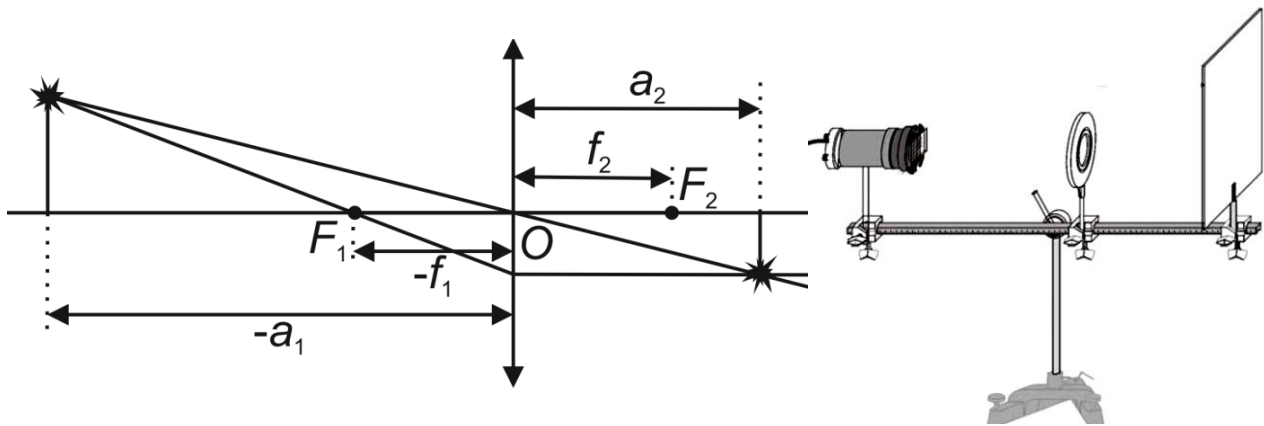

Fig. 41.1. Ray diagram in a thin lens (left) and experimental setup for determining the focal length of a converging lens (right)
1. Install the lamp, converging lens, and screen on the optical bench (Fig. 41.1).